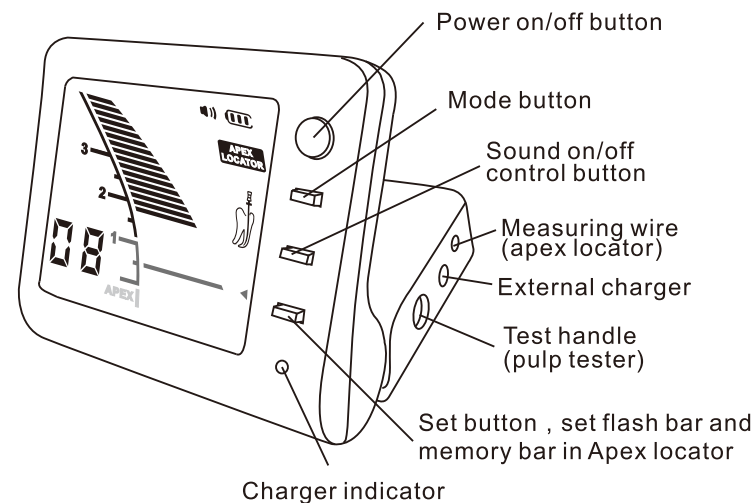

Fig.1
Congratulations on the purchase of C-Root I (VI), as an apex locator which is precise, ergonomic, and able to determine the exact working length in seconds, as a pulp tester which is a wise assistant to judge the pulp vitality. (Fig.1)